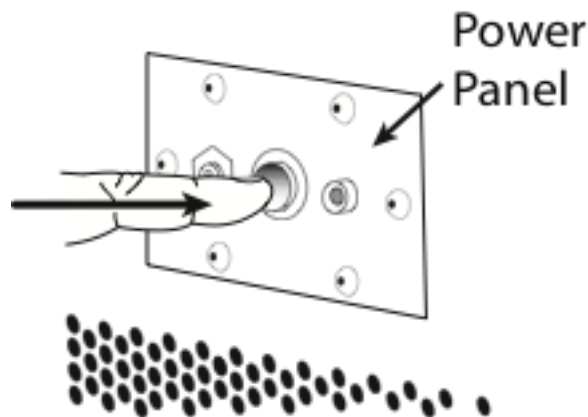

Fig. 6
11. Depress the power switch to the ON position as in Fig. 6. Though the machine will be quite cool within 30 seconds, it may two or three minutes for the machine to cool significantly.